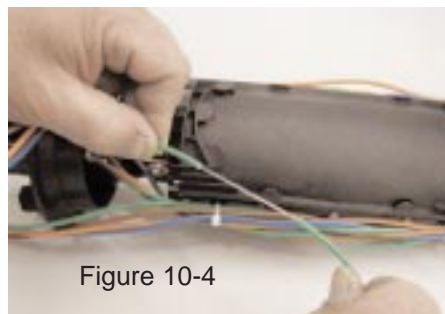

Figure 10-4
**10.04** Mark tube to be spliced, cut and remove tube to expose fibers. (Figure 10-4)